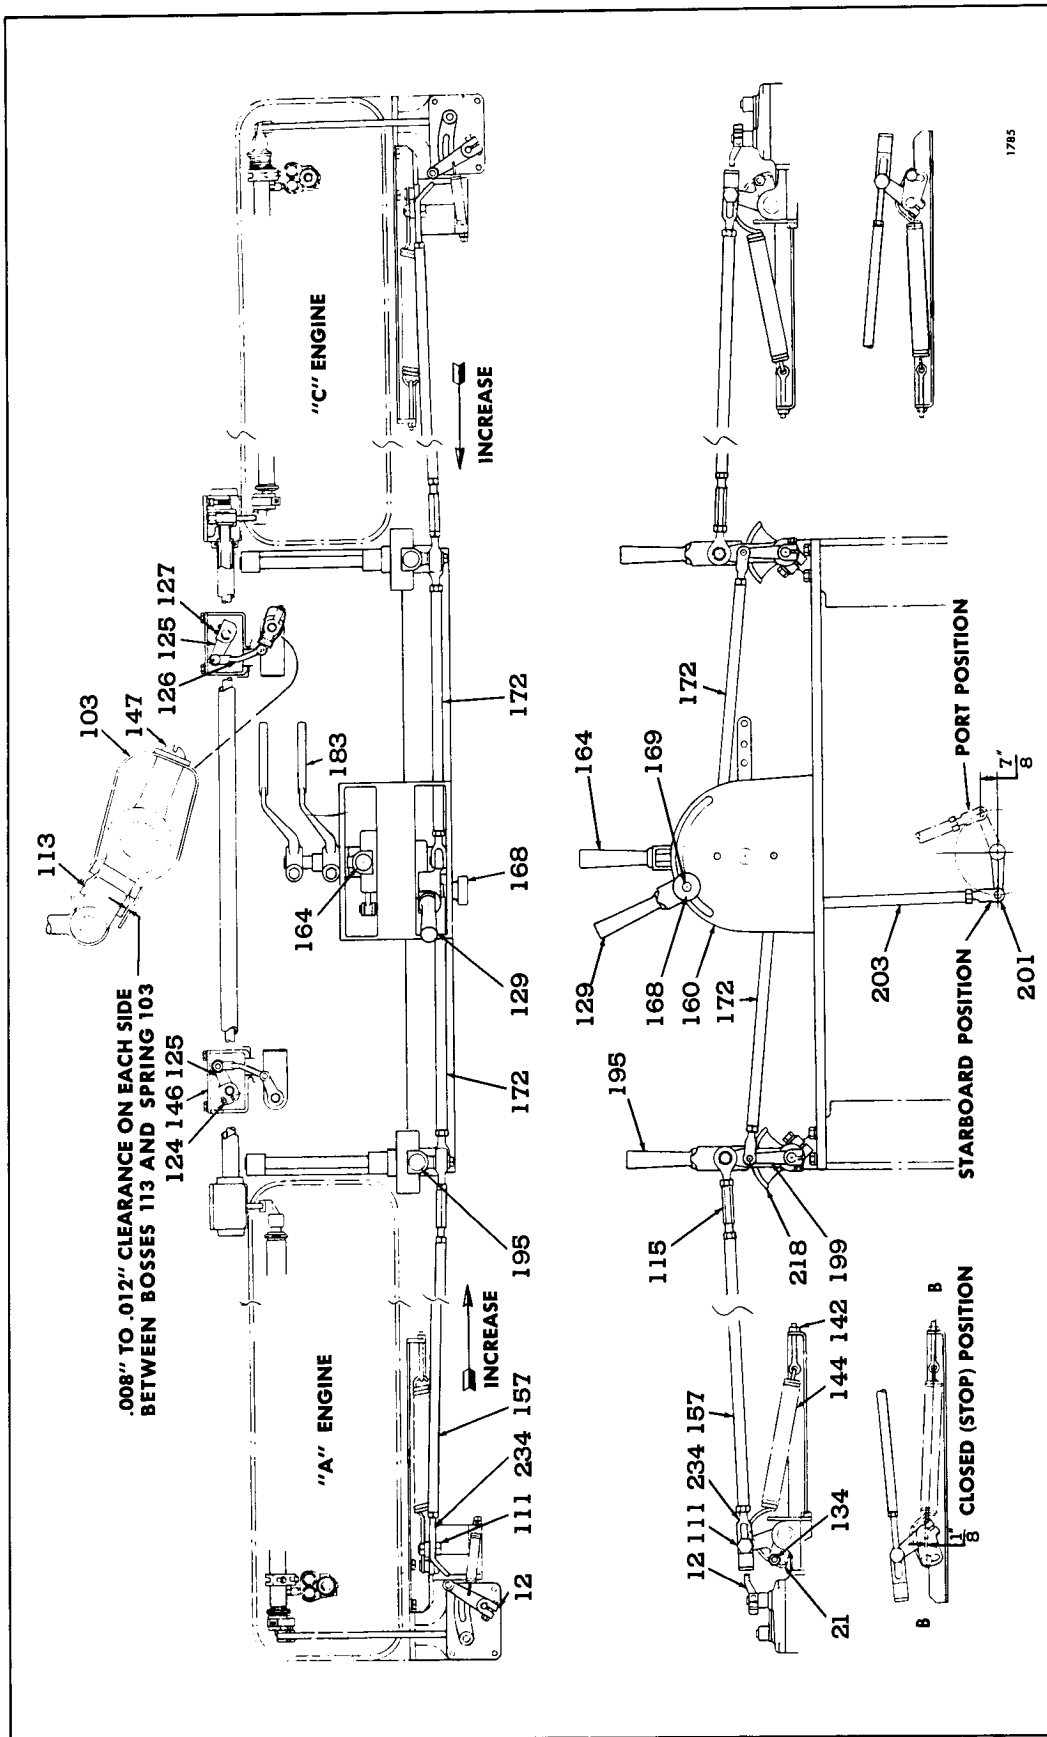

Fig. 8 - Diagram of Throttle Control Linkage for Tandem Twin Marine Unit with Variable Speed Governors
Therefore, refer to Fig. 8 and disconnect the control rods (157) from control levers (21) and perform the tune-up procedures for single engines given in this manual before adjusting the throttle control linkage. Then, with engines stopped and valve covers removed:
- at the side of the lever housing (160). Secure the throttle lever in this position by means of the knurled lock nut (168).
3. Disconnect both master throttle control rods (172) from the cross shaft operating levers (199) of the individual throttle levers (195) at the "A" and "C" engines, Fig. 8.
4. Lock both throttle levers (195) to their quadrants (218) and fix them in a vertical position.
5. Loosen clamp bolt on quadrant (218), if necessary, and set both cross shaft operating levers (199) vertically with holes for clevis pins on an imaginary line extending through the centers of cross shafts and rod end bearings, and between these centers. Tighten clamp bolts on quadrants.
6. While maintaining levers (195) in a vertical position, adjust the master throttle control
- b. Warm engines up to operating temperature, then run each engine at top speed and compare the speeds with original top speed to check proper length of control rod (157).
- c. If engine speeds are O.K., connect equalizer link and install cotter pin; if speeds are unsatisfactory, adjust length of rod or rods (157) as necessary.
10. With the reverse gear control valve lever (164) set in a vertical position, check the position of the selector valve lever on the reverse gear. On a port propulsion unit, the center of the clevis pin hole in selector valve lever will lie on a horizontal center line drawn through the center of selector valve shaft, as shown in Fig. 8, and point forward. On a starboard propulsion unit, the clevis pin hole in the selector valve lever will point aft and lie $7/8$ " above the horizontal center line drawn through the center line of the selector valve shaft.
- a. With engines stopped, and master throttle lever (129) in the FULL OPEN position and equalizer links connected at the "A" and "C" engines, loosen clamp bolt (124) in equalizer shaft lever (125) at the "A" engine so that the lever can turn on the equalizer shaft.
- b. Set the two adjusting screws (127) in adjustable equalizer lever (125) at the "C" engine the same height in the lever so that lever can be adjusted later if necessary.
- c. Rotate lever (125) on shaft until the free ends of the equalizer spring (103) are resting—without strain—against the two bosses on the injector control tube lever and are an equal distance from the bosses (113) at each side of the equalizer link lever. While maintaining the clearance between lever bosses and spring, tighten clamp bolt in lever (125).
- d. Again check clearance between bosses and spring; and if clearance was changed while tightening clamp bolt in lever, adjust screws (127) and change position of lever (125) until clearance between bosses (113) and spring (103) is the same on both sides of equalizer link lever.
- f. With engines up to operating temperature, clutches still disengaged and the individual throttle levers (195) locked to their quadrants (218), move master throttle lever (129) to FULL OPEN position and check the speed of each engine with a tachometer and record the speed.